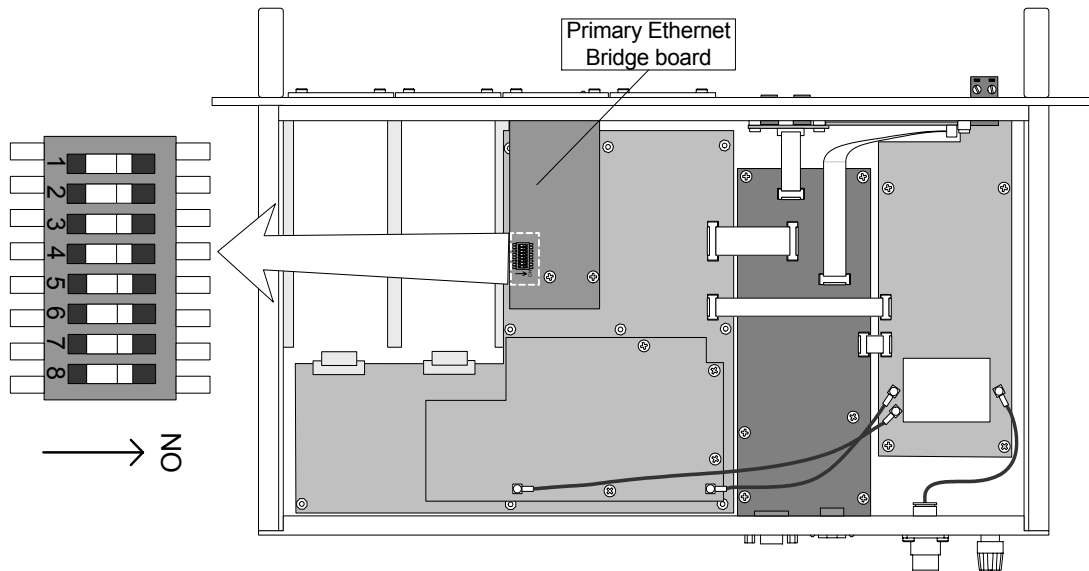

Figure 7. The DIP Switch is located on the bridge module (encircled within white rectangle).
1. Remove the cover of the IDU. Configure the DIP switch, located on the top side of the module as detailed in the following table (bold indicates factory default settings). See Figure 7 for location of switch on the primary Ethernet bridge board.